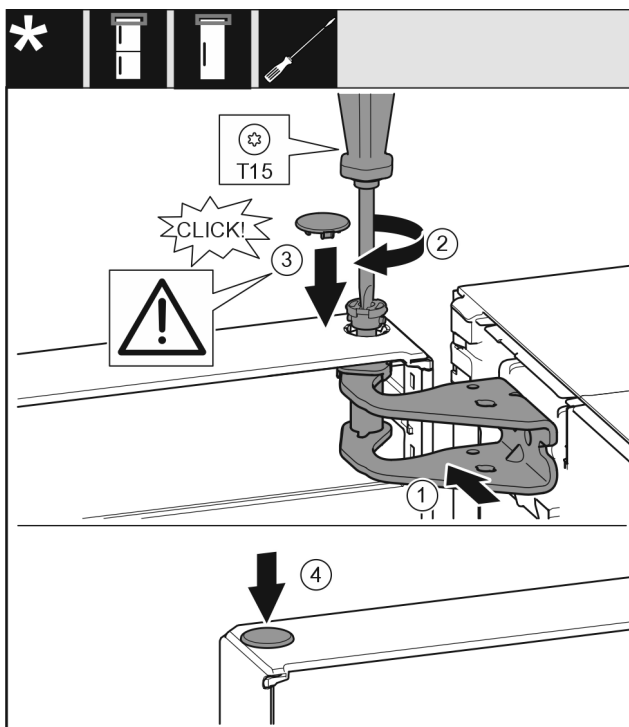

Fig. 24
- ▶ Align the top of the door with opening in the bearing bracket. Fig. 24 (1)
- ▶ Insert the bolt and tighten with a T15 screwdriver. Fig. 24 (2)
- ▶ Fit the protective cover to protect the door: Insert the protective cover and check that it lies flush on the door. If not, insert the bolt fully. Fig. 24 (3)
- ▶ Insert the plugs. Fig. 24 (4)